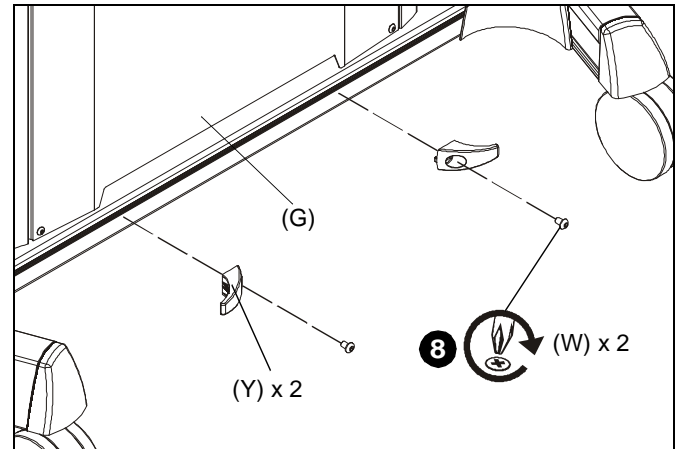

Figure 17
8. Use two 1/4-20 x 1/2" Phillips pan machine screws (W) to attach two cable hooks (Y) to bottom of column assembly (G). (See Figure 17)